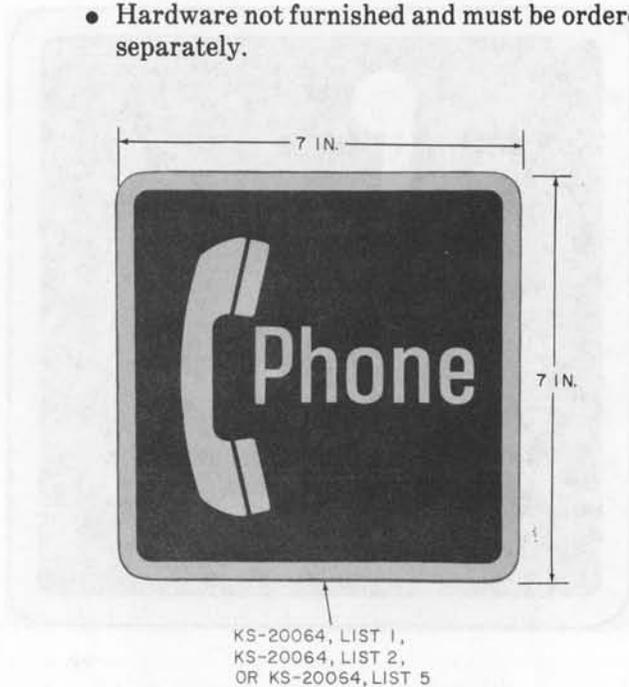

Fig. 4—KS-20064, List 1, 2, or 5 Sign
- (a) KS-20064, List 1 (Fig. 4):
(b) KS-20064, List 2 (Fig. 4):
(e) KS-20064, List 5 (Fig. 4):